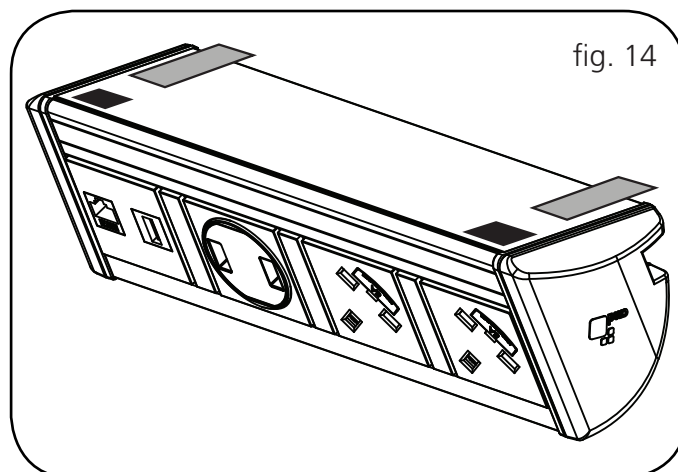

fig. 14
2. Place the adhesive tabs (equally spaced) on the unit surface, ensuring the removal tab is partially exposed (fig. 14).